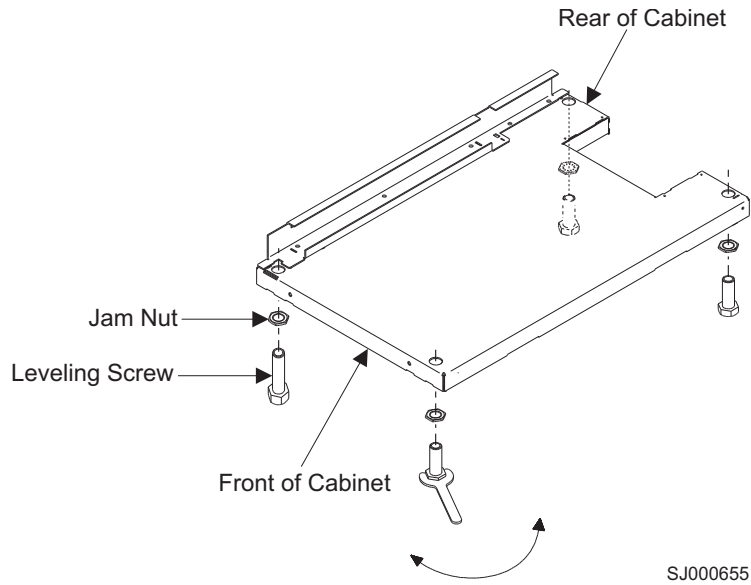

Figure 62. Adjusting the leveling feet
1. Loosen the jam nut on each leveling foot by turning the nut counterclockwise, away from the bottom of the rack. See Figure 62 on page 211.